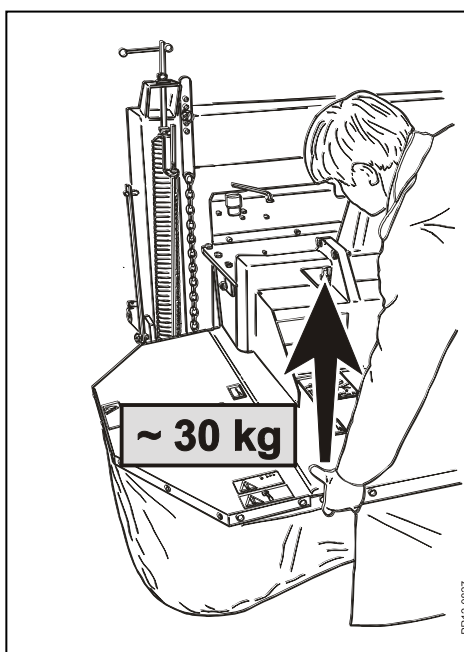

Fig. 3-8
- Fig. 3-8**      We recommend that the springs are tightened so much that the lifting capacity over the cutterbar is **approx. 30-50 kg in each side.**